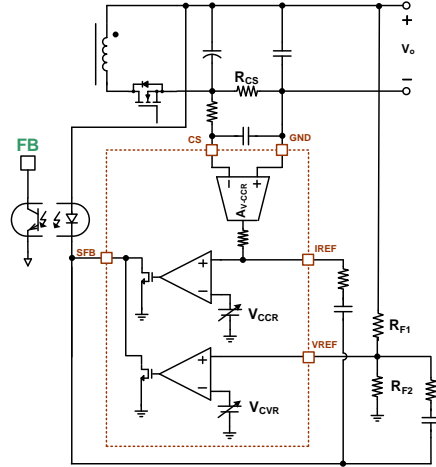

Figure 18 Constant Voltage and Constant Current Circuit
The internal constant voltage control block regulates adaptive output voltages. Output voltage is sensed through an external resistor divider. The sensed output voltage is connected to the VREF which is the non-inverting input terminal of the internal operational amplifier. The inverting input terminal is connected to the internal voltage reference (V_{CVR}) which can be adjusted according to the requested output voltage via Quick Charge 3.0 protocol. The amplifier and an internal switch operate as a shunt regulator. The output of the shunt regulator is connected to the external opto-coupler, and this pin is named as Secondary Feedback (SFB). To compensate output voltage regulation being stable, one capacitor and one resistor are connected typically between the SFB and VREF pins as shown in Figure 18. The output voltage can be derived as shown in equation (1) and the recommended ratio of the resistor divider is 5.
In order to support adaptive constant output current, FAN6290Q incorporates the constant-current control circuit internally. Output current is sensed via a current-sense resistor, R_{CS} , which is connected between the CS pin and GND pin. The sensed signal is internally amplified, and this amplified voltage is connected to the non-inverting input of the internal operation amplifier. Likewise the constant voltage amplifier circuit, it also plays a role as a shunt regulator to regulate the constant output current. In order to compensate output current regulation, one capacitor and one resistor are connected between IREF and SFB pins typically as the Figure 18. The constant output current is decided by the equation (2). 30 mΩ is typically used for the sense resistor.
Since CS pin senses small amounts of voltage, the sensing resistor should be positioned as close as possible to CS pin. Shown in Figure 18, an RC low pass filter can be added on the CS pin to be immunized from noise.